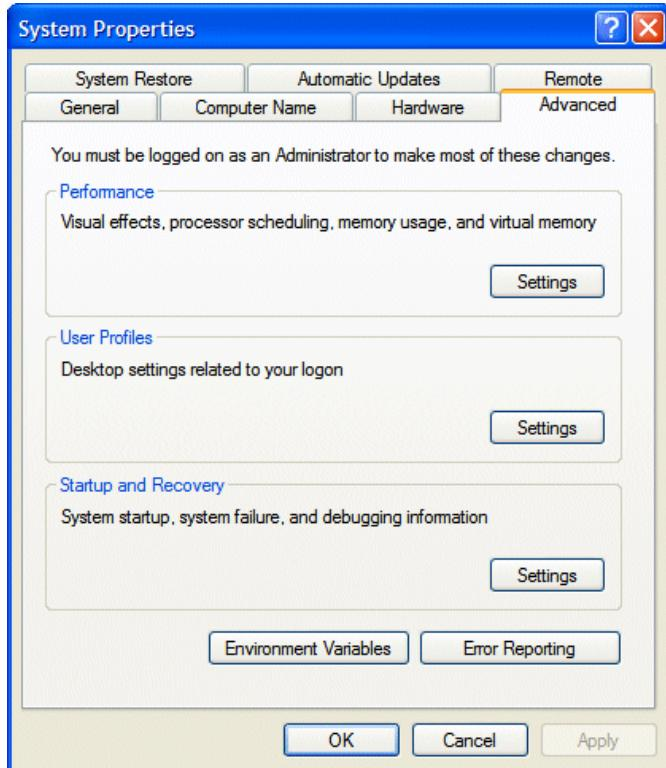

Figure 9-3. The System Properties dialog.
- 2) Observe the resulting **System Properties** dialog as illustrated in Figure 9-3.